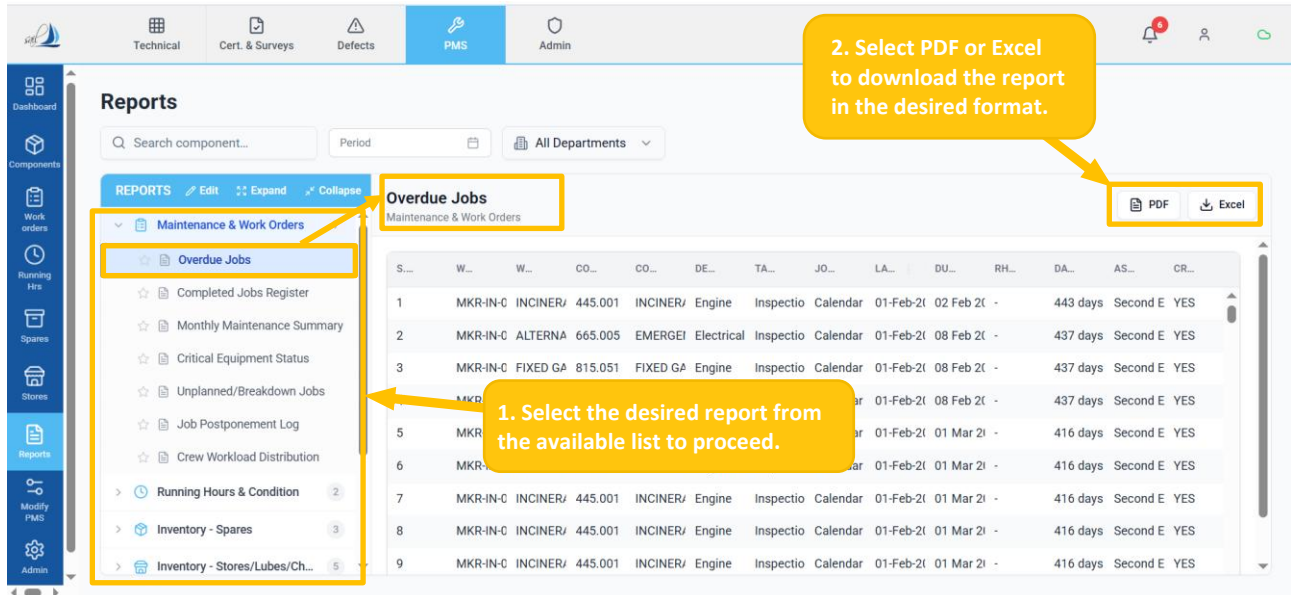

Figure 67
- Click on a category to expand it and view the list of available reports. (Ref Figure 67)
- Click the PDF or Excel option to export and download the report in the selected format. (Ref Figure 67)